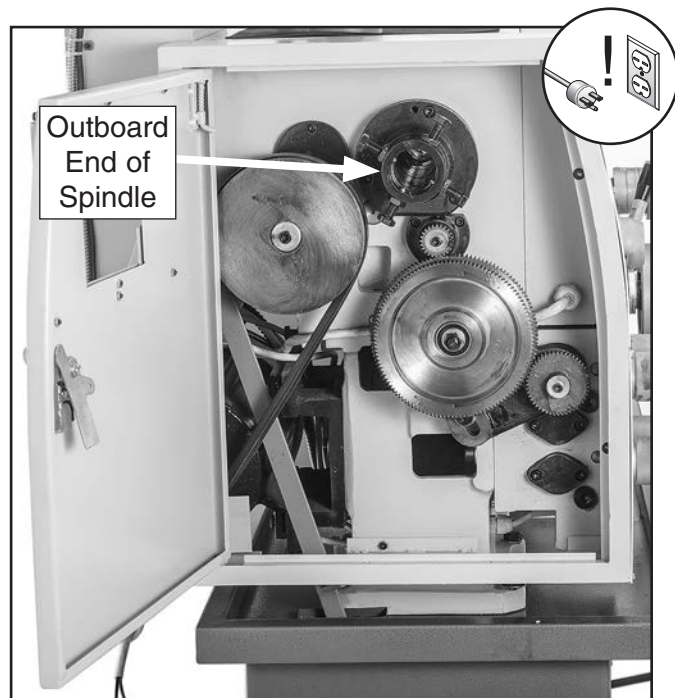

Figure 141. Location of outboard end of spindle.
3. Remove chuck and spider bolts, then shift spindle to neutral and remove headstock gear cover to access outboard end of spindle (see **Figure 141**).